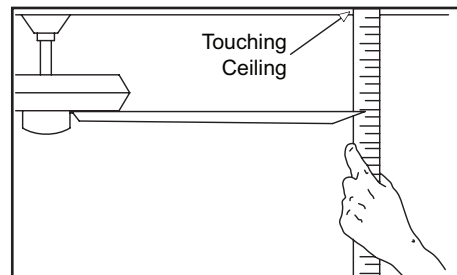

Figure 12
2. Most fan wobble problems are caused when blade levels are unequal. Check this level by selecting a point on the ceiling above the tip of one of the blades. Measure from a point on the center of each blade to the point on the ceiling. Measure this distance as shown in Figure 12. Rotate the fan until the next blade is positioned for measurement. Repeat for each blade. Measurements deviation should be within 1/8". Run the fan for 10 minutes.